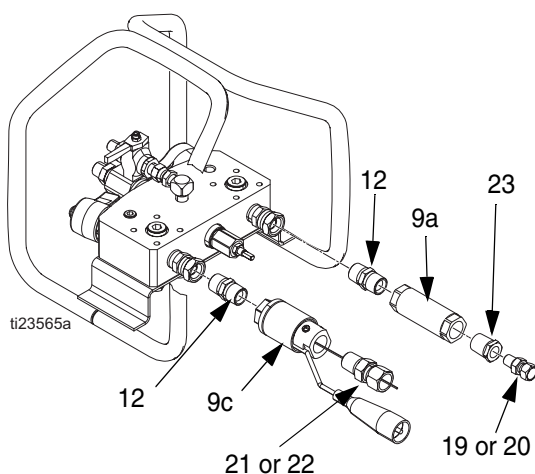

FIG. 6: XM Mix Manifold
1. Carefully extend FTS probe (H) into the hose section from the hose heat control. Do not bend or kink probe. **Insert probe in major volume resin side on systems which are not 1:1 mix ratio.**
2. Connect FTS (9) to fittings (12) on remote XM mix manifold. See FIG. 6.
3. Connect fitting (23) to FTS coupler (9a) and fitting (19 or 20). Connect fittings (21 or 22) to FTS sensor (9c). Connect fluid hoses to FTS (9).
4. Install one connector (D) between wires. Refer to **Connect Heated Hoses** in manual 309572 for instructions.
5. Connect hose assembly cable (F) to FTS cable (R). Slide insulator sleeves (S) over connection. Leave slack (G) in cables as stress relief, to prevent cable failure.